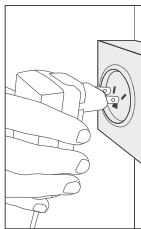

FIG.12
5. Plug the power supply into an electrical outlet (Fig.12)